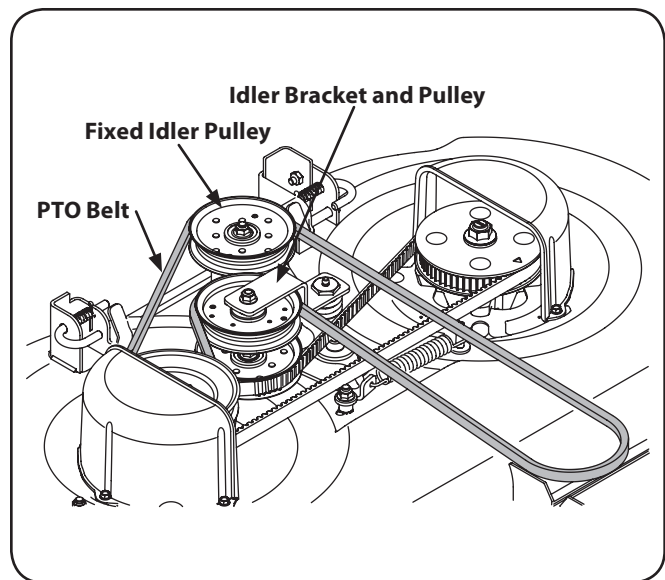

Figure 7-4
3. Slide the belt between the bottom of the idler pulley and top of the timing belt idler pulley below. See Fig. 7-4.
4. Loop the belt and push out of the V-groove of the drive pulley on the right hand spindle assembly. Lift the belt over the pulley and out from beneath the spindle cover. See Fig. 7-4.
6. Route the back side of the belt around idler pulley and between the idler pulley and idler bracket. Re-tighten the hex screw and flange lock nut if loosened earlier. Refer to Fig. 7-4.
7. Route the belt around the fixed idler pulley as shown in Fig. 7-4 and re-install the deck as described in "Reinstalling the Cutting Deck" later in this section.